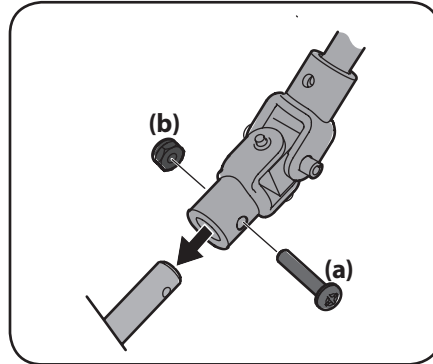

Figure 2-13
3. Remove the screw (a) and hex lock nut (b) from the universal joint. See Figure 2-13.
4. Install the universal joint on the end of the chute rod as shown in Figure 2-13.
5. Secure the universal joint with the hex lock nut (b) and screw (a) removed in Step 3. See Figure 2-13.